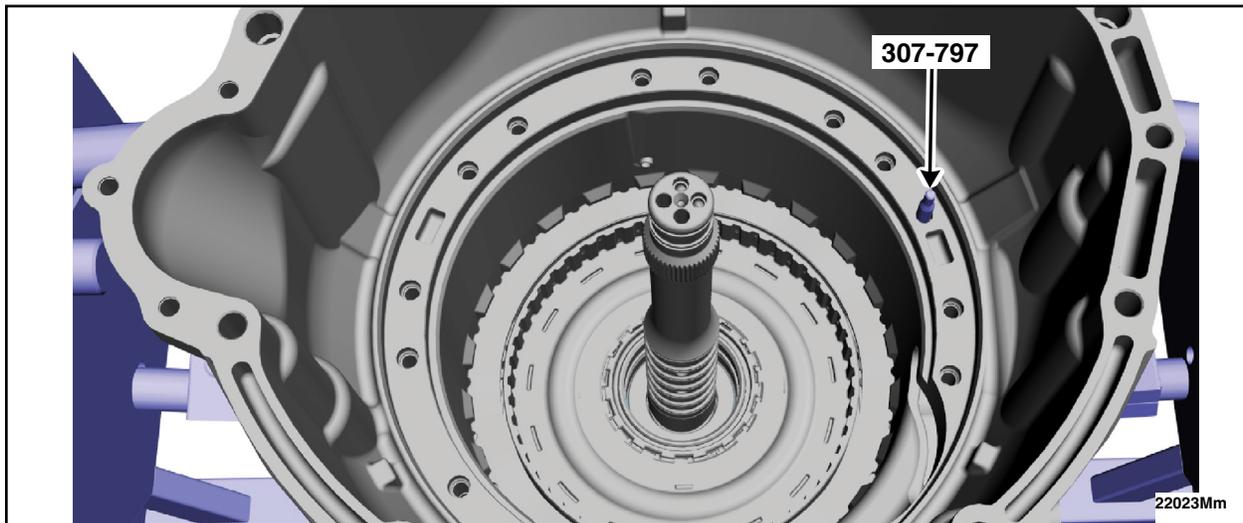

FIGURE 48
57. Install the Special Service Tool: 307-797 Installer, Alignment Studs (3) & Alignment Pin (All 10R) in the location shown. See Figure 48.